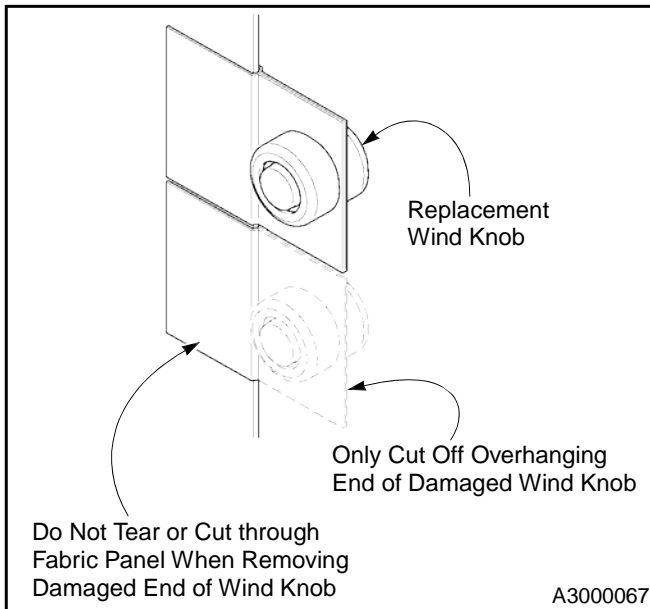

Figure 29
4. Remove as much of the damaged wind knob from the fabric panel as possible, without damaging the fabric panel. (See Figure 29.)